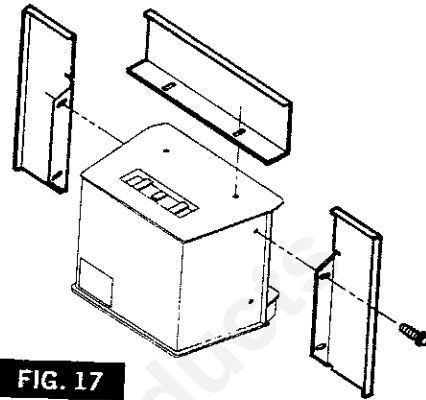

FIG. 17
7. Mount the trim panels using a 3/8" or adjustable wrench and the (6) 1/4-20 self threading screws provided. (Fig. 17).